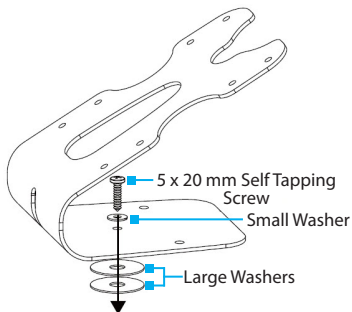

Figure 9
5. Align the **Large Washers** (x 2) over the **Pilot Hole**. (Figure 9)